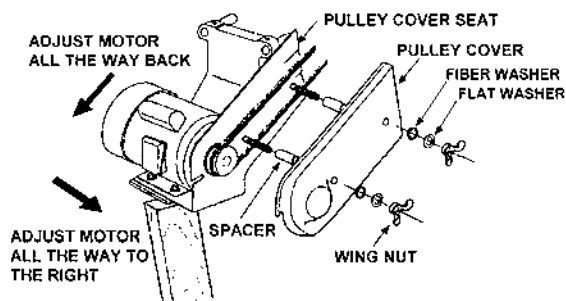

Figure 17
13. Adjust the motor all the way **back** on the slots of the base, then move it all the way to the **right**. See Figure 17. This will prevent the motor from rising above the table when tilted at 45 degrees. Tighten down the motor base screws.
14. Remove wing nuts with washers and install pulley cover, as shown in Figure 17, over the spacer and carriage bolt. Install the wing nut and washers and tighten down the pulley cover so that it fits snugly over the pulley cover seat.